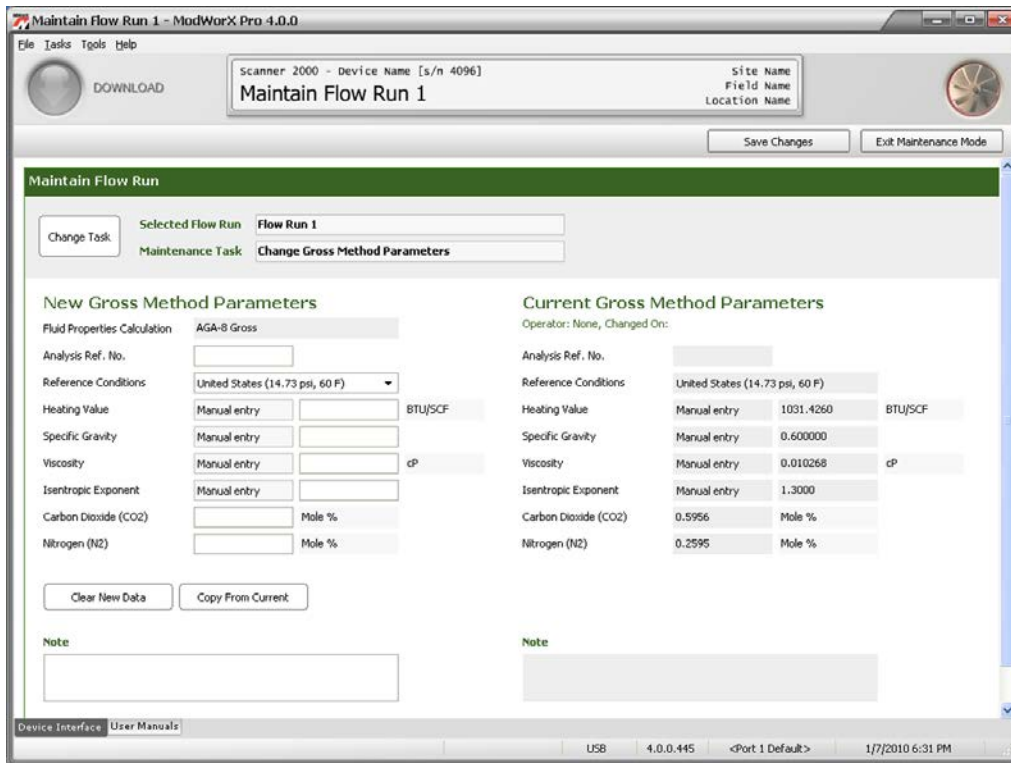

Figure 9.9
- b. Click **OK** to save the settings and return to the Maintain Flow Run screen (Figure 9.9, page 126).